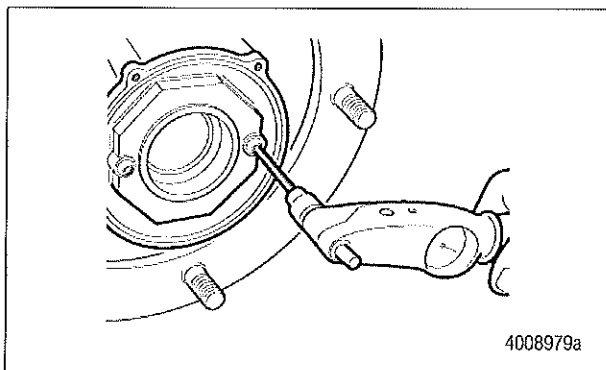

Figure 27
- Use a 5 mm Allen-head socket and torque wrench to tighten the two button-head screws to 11-15 lb-ft (15-20 N·m). Ensure the button-head screws are fully seated flush with the nut face. Figure 27.